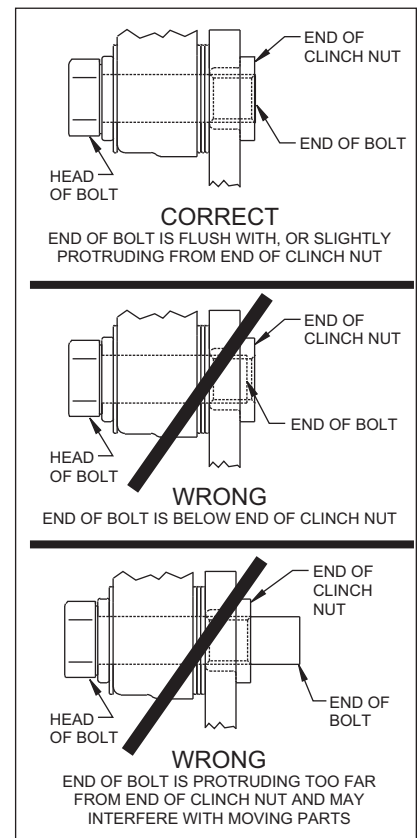

Figure 5.
•With the slot pointing upward and the mounting ears pointing towards the rear of the vehicle, install the caliper mounting bracket (1) to the housing flange using the stock Original Equipment Manufacturer (OEM) bolts and nuts. Stock OEM hex nuts that retain the bracket (1) should be on the wheel side of the bracket. Apply red *Loctite*® 271 to the stock OEM bolt threads and torque to OEM specifications. **NOTE:** Some brackets act as the bearing retainers, while others help locate the bearing in the axle housing flange. If the stock bearing plates are still on the axle, the caliper mounting brackets (1) should be located between the axle housing flange and the bearing retainer plate. Make sure the heads of the caliper mounting bracket insert nuts are FACING OUTWARD TOWARDS THE WHEEL.
•Bolt the hat (2) to the rotor (3) using washers (4) and bolts (5). Torque bolts (5) to 180 in-lb. Safety wire bolts (5) using standard 0.032 inch diameter stainless steel safety wire as shown in Figure 5. Please refer to Wilwood's data sheet DS-386 (available at [www.wilwood.com/Pdf/DataSheets/ds386.pdf](http://www.wilwood.com/Pdf/DataSheets/ds386.pdf)) for complete safety wire installation instructions.
•Align the correct hole pattern in the hat (2) with the stud pattern on the axle flange. **NOTE:** Some OEM and after market axles come with stud sizes larger than 0.50" diameter. Verify stud size and have a qualified machine shop drill the hats to the correct size. Slide the hat/rotor assembly (2 and 3) over the wheel studs and against the axle flange face.
•NOTE: Please reference the caution statement at the beginning of the assembly instructions. WITH THE BLEED SCREWS POINTING UP, mount the caliper (6) over the rotor (3) and onto the caliper mounting bracket (1) using washers (7) and mounting bolts (8). View the rotor through the top opening of the caliper. The rotor should be aligned in the center of the caliper. If not, adjust the caliper by using 0.032 inch shim washers (9), placing them between the caliper mounting bracket (1) and the caliper (6). Add as many shim washers (9) as necessary to achieve the correct alignment. **NOTE:** The end of the bolt must be flush with or slightly protruding from the head of the clinch nut. See Figure 5. Place spare shims (9) between washer and caliper mounting ear to achieve the proper mounting fastener configuration. Always use the same amount of shims on both the top and bottom caliper mounting bolts (8). Apply red *Loctite*® 271 to the mounting bolt threads (8), torque bolts to 30 ft-lb. Safety wire the caliper mounting bolts (8).
•Position the Wilwood disc brake pads (10) into the caliper (6) and fasten with cotter pin (11). Steel backing plate side of brake pad should face the caliper pistons.